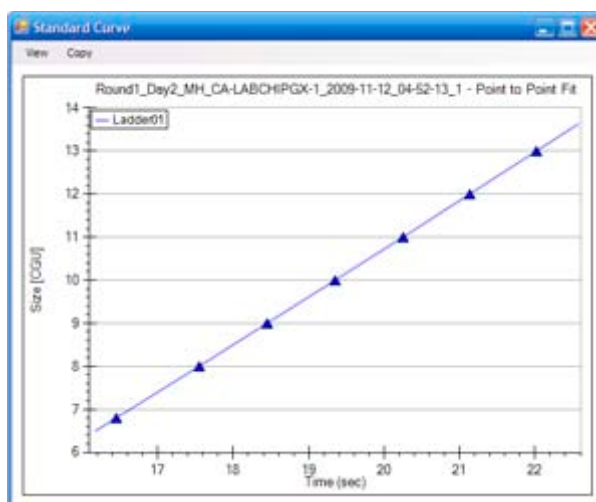

Figure 17. Standard Curve - Glycan
- 5 The ladder is analyzed (see “Ladder Analysis” on page 257) and a standard curve of migration time versus mobility is plotted from the ladder by interpolation between the individual glycan/migration points. The standard curve derived from the data of the ladder well should resemble Figure 17.